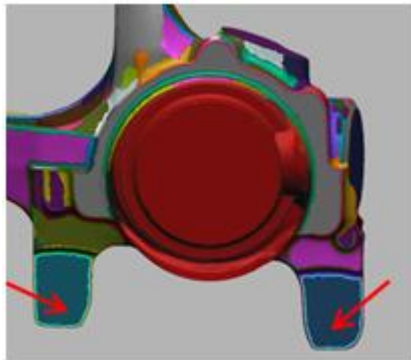

Figure 289
7. Select the region like **Figure 289**.